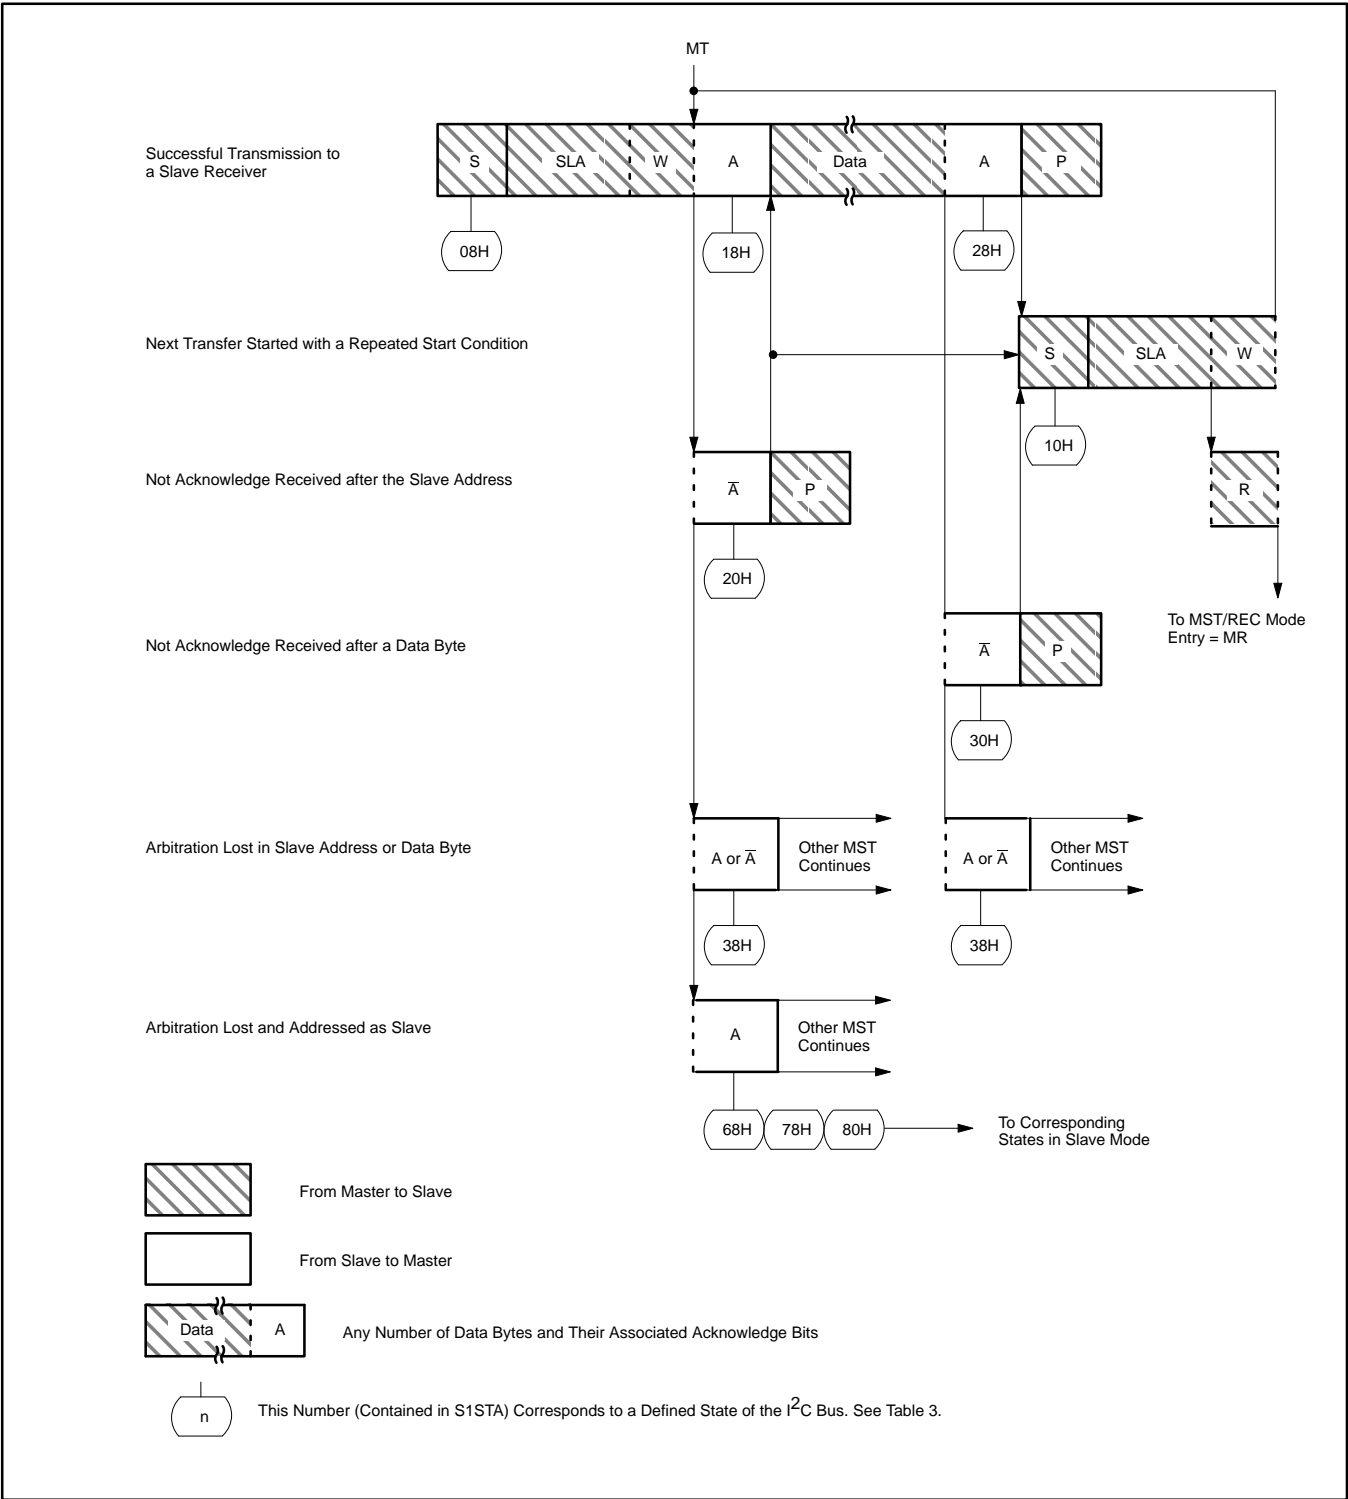

Figure 17. Format and States in the Master Transmitter Mode
Data transfers in each mode of operation are shown in Figures 17–37. These figures contain the following abbreviations:
**Master Transmitter Mode:** In the master transmitter mode, a number of data bytes are transmitted to a slave receiver (see Figure 17). Before the master transmitter mode can be entered, S1CON must be initialized as follows: